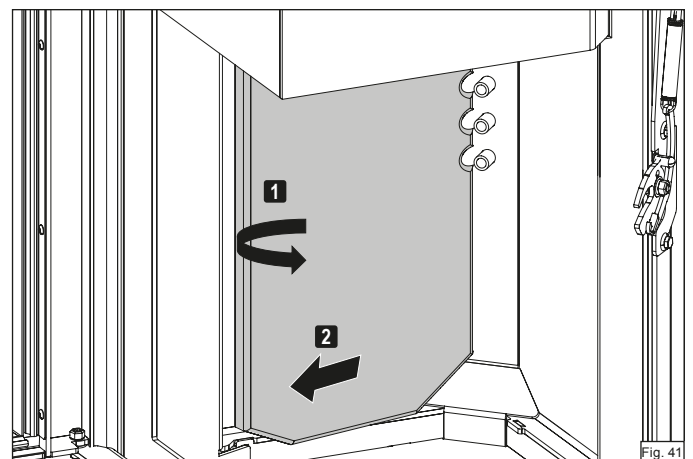

Fig. 41
- ▶ Turn the left firebrick **1** and remove from the firebox **2** (Figure 41).